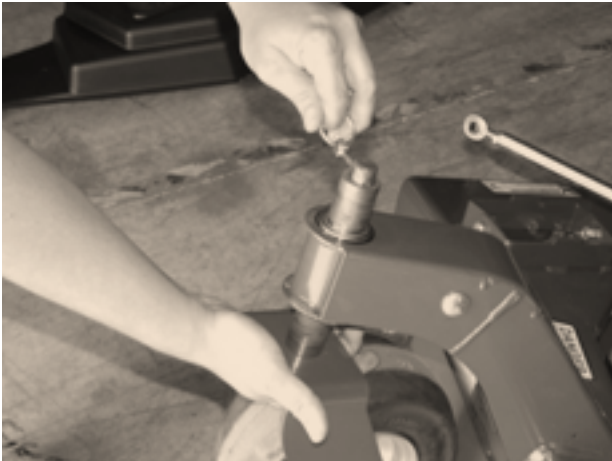

Figure 8
2. Remove lynch pin (10006) from the top of caster fork **Figure 8**.